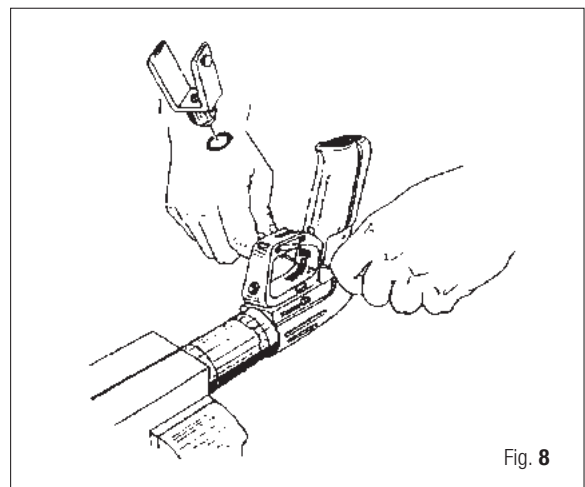

Fig. 8
24. For Competition Line Spearguns with serial numbers 92289000 and prior, remove snap fork (74) by inserting, simultaneously, 2 small screwdrivers or punches through the holes on either side of the handle. Slightly depress snap fork with screwdrivers or punches and lift upward (Fig. 8).
25. Remove connecting plunger O-ring (77).